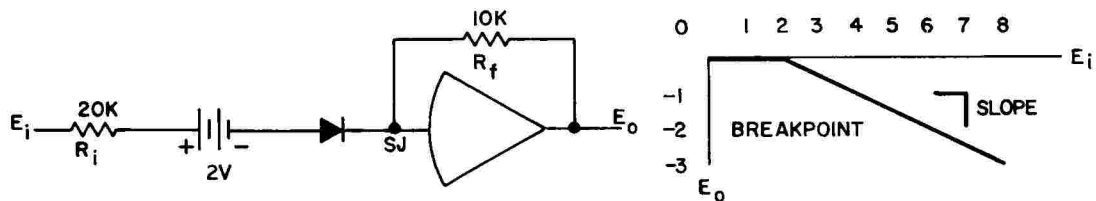

Figure A1.12. Amplifier with Biased Diode Network
A diode can be connected in series with a battery and the input resistor of an amplifier as shown in Figure A1.12. The cathode of the diode is connected to the amplifier's summing junction (SJ) which is at virtual ground potential. The anode is at minus two volts; the diode is cutoff. The input current to the summing junction is zero. When the input voltage E_i is greater than plus two volts, the anode of the diode is positive and the diode conducts. The net voltage across the input resistor R_i is $(E_i - 2)$ volts. The amplifier output is $-1/2 (E_i - 2)$ volts since the ratio of R_f to R_i is $1/2$. The amplifier output voltage is plotted against the input voltage in Figure A1.12b. The point at which the diode begins to conduct is called the breakpoint. The slope of the output is determined by the ratio of R_f to R_i .